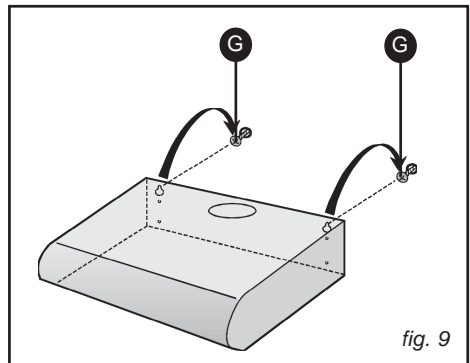

fig. 9
- Take 2 of the supplied screws (Fig. 9) and align them in the top dowels, but do not screw them in completely.